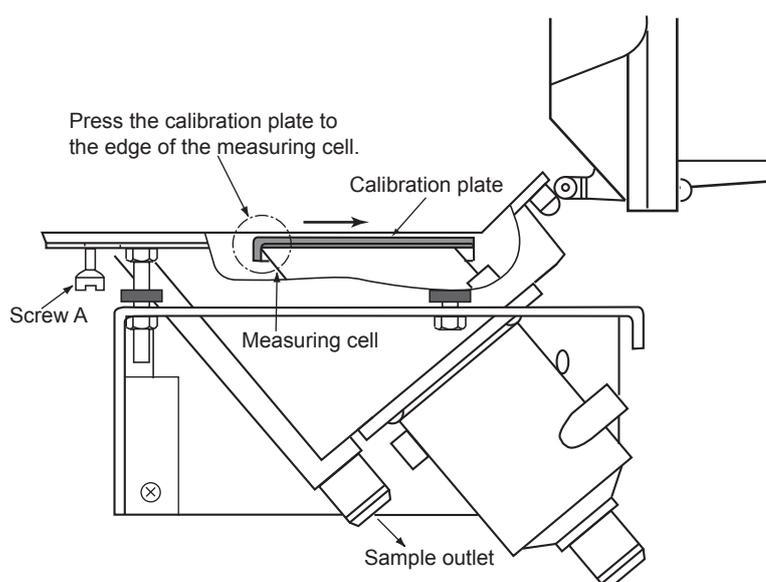

Figure 4.4 Calibration Plate Setting
- (5) Set the attached calibration plate as shown in Figure 4.4 (the calibration plate is housed in the converter).
- (6) Close the detector and tighten screw A.
- (7) Wait for the indication to stabilize and press [ENT] --> [>] --> [ENT] to calibrate.
- (8) Open the detector and remove the calibration plate and then tighten screw A.